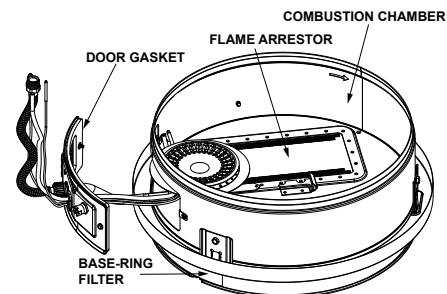

FIGURE 38.
1. At least annually, check the base-ring filter (Figure 38) for any dust or debris that may have accumulated on the filter screen. **NOTE:** If the water heater is located in an area that is subjected to lint and dirt, it may be necessary to check the base-ring filter more frequently.
- Use a vacuum cleaner/shop vac to remove all loose debris in the combustion chamber (Figure 38). Use compressed air to clear any dust or debris that may have accumulated in the flame-arrestor.